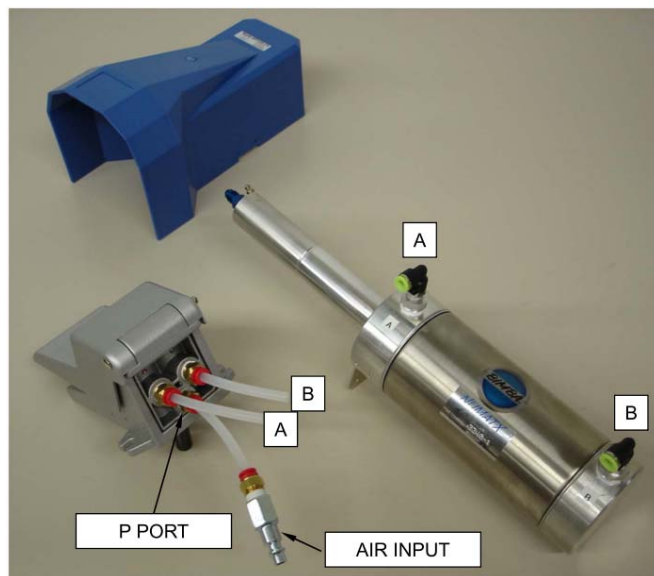

FIGURE 3
- 4.4 Install the 1/4" plastic air line between the foot valve (controlling valve) and the intensifier. The tubing is pressed into the fittings with little effort. To remove the tubing, depress the collar at the end of the fitting, while pulling out the tubing. Figure 3 depicts the air line